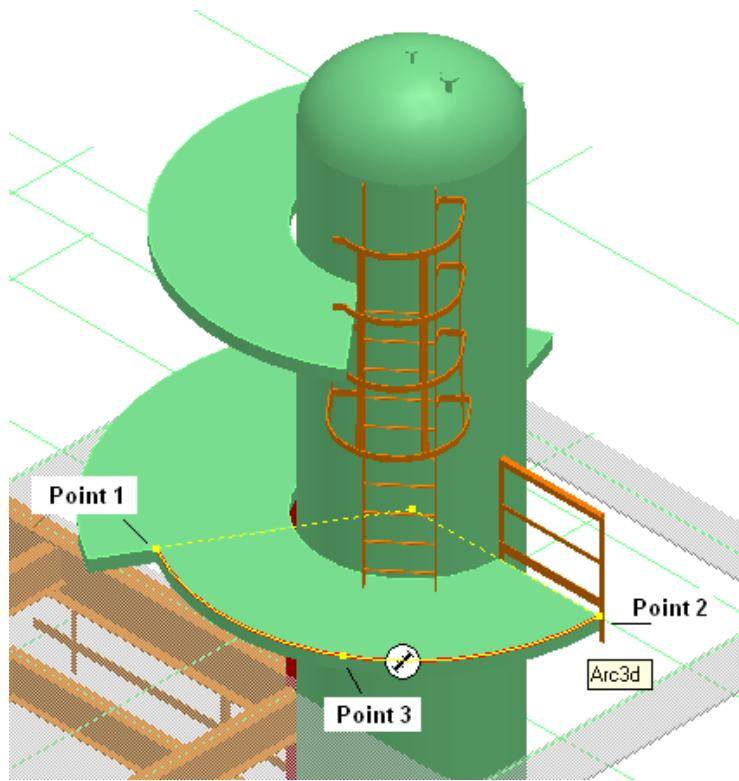

Figure 4.45: Handrail Path
47. Sketch the path of the handrail as shown in Figure 4.45.